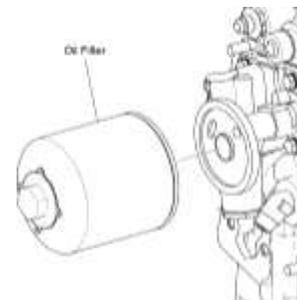

Figure 4
- C. Remove the oil filter (Figure 4) from the oil filter base.
- G. Install the new oil filter on the oil filter base as shown in Figure 4.